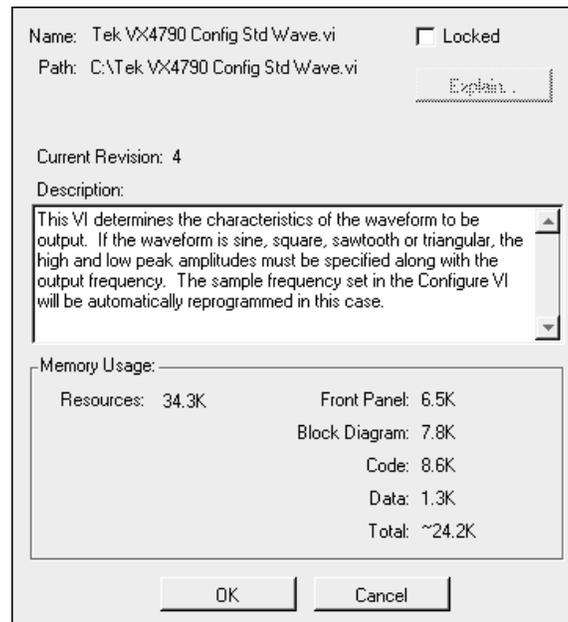

Figure 13. Show VI Info... Option from the **Windows** Menu.
- General Description help is available from the description box of the information window when a user selects **Show VI Info. . .** from the **Windows** menu (see Figure 13). This dialog box should contain a general description of the instrument driver VI including any control usage rules or VI interaction that should be brought to the user's attention.